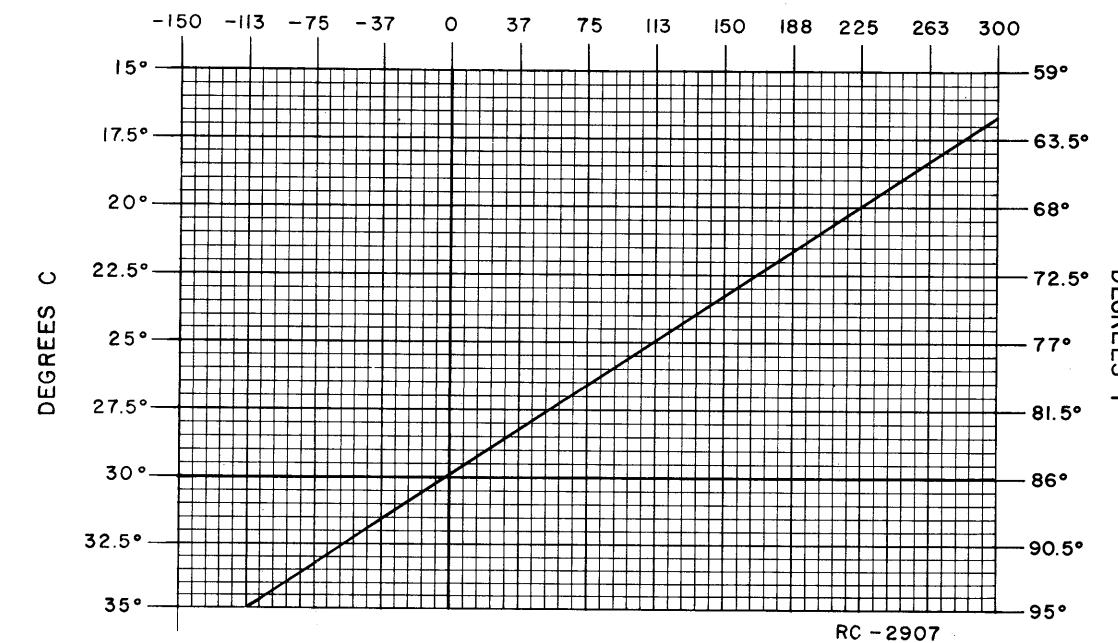

Figure 3 - Frequency Characteristics Vs. Temperature
First, check the frequency to determine if any adjustment is required. (Refer to frequency offset chart, Figure 3.) The frequency measurement requires equipment with an absolute accuracy that is 5 to 10 times better than the tolerance to be maintained. When adjusting the frequency, the entire radio should be as near as possible to an ambient temperature of 30°C (86°F).
NOTE: To set crystal frequency using "beat frequency" method, the temperature should be at 30°C (86°F). If the temperature is not 30°C, then offset the "ON FREQUENCY" signal (at the receiver input), as a function of actual temperature, by the frequency ERROR FACTOR shown in Figure 3.
- Maintain the radio at 30°C (±5°C, -10°C) and offset the oscillator, as a function of actual temperature, by the frequency error shown in Figure 3.